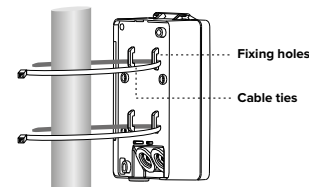

Fig.3
2. With a UV resistant cable tie of 4.5 mm wide, around a pole (Fig.3, not included)